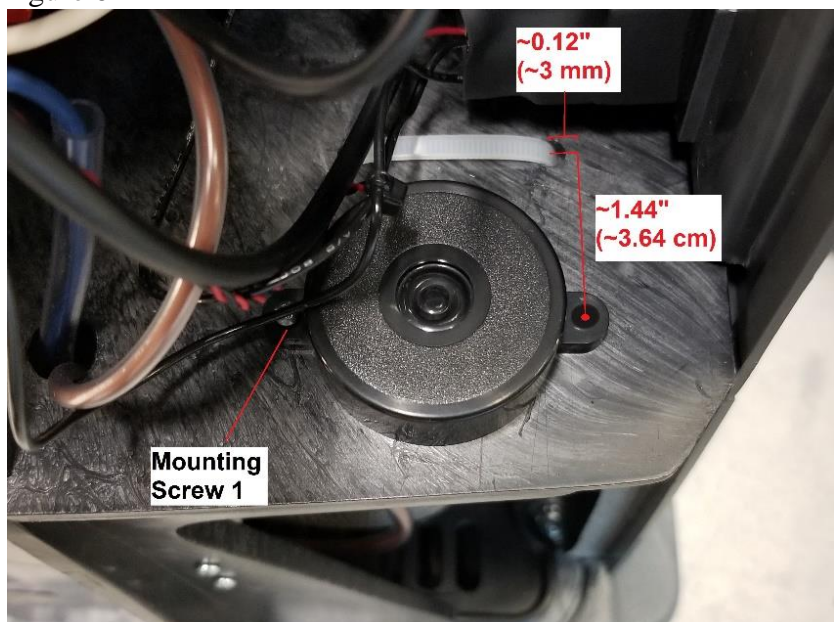

Figure 6. Second Mounting Hole Location
12. Drill a second mounting hole in the case with a 3/32" (2.4 mm) drill bit. See Figure 6